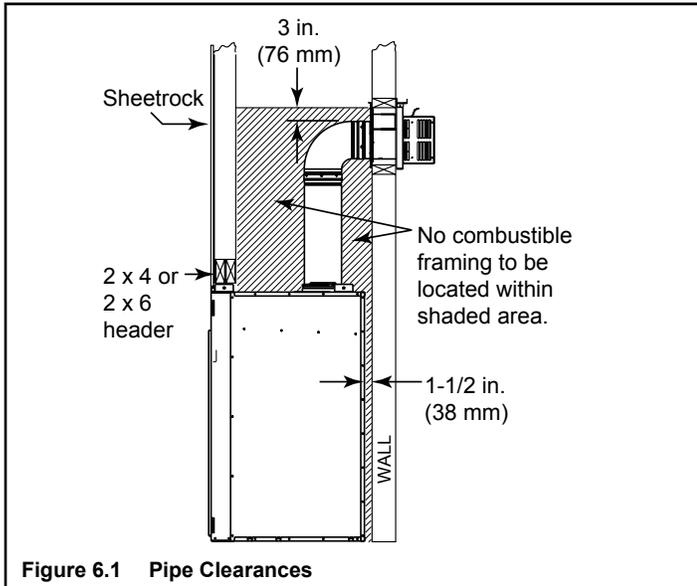

Figure 6.1 Pipe Clearances
- Frame a hole in a combustible wall for a wall shield firestop (Figures 6.1 through 6.3) whenever a wall is penetrated. Use same size framing materials as those used in the wall construction. The wall shield firestop maintains minimum clearances and prevents cold air infiltration.